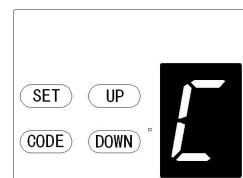

Fig.25
- 24.4 Momentarily press the “Up” button until “C” is displayed on the LED screen. (Fig.25)